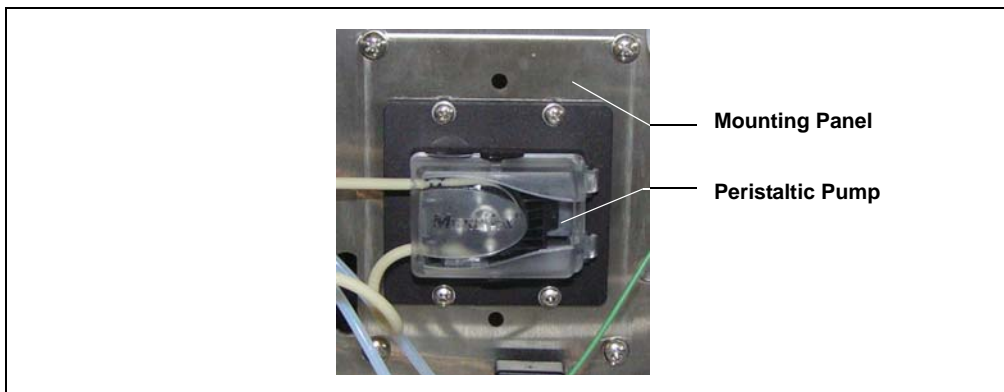

Figure E-1. Peristaltic Pump on SP Panel
2. Orient the peristaltic pump on the mounting panel as shown in Figure E-1 and attach the pump to the mounting panel using the four washers and Phillips screws supplied in the kit.
3. Slide the body of the pump through the opening on the SP panel. Attach the pump mounting panel to the SP panel as show in Figure E-1.